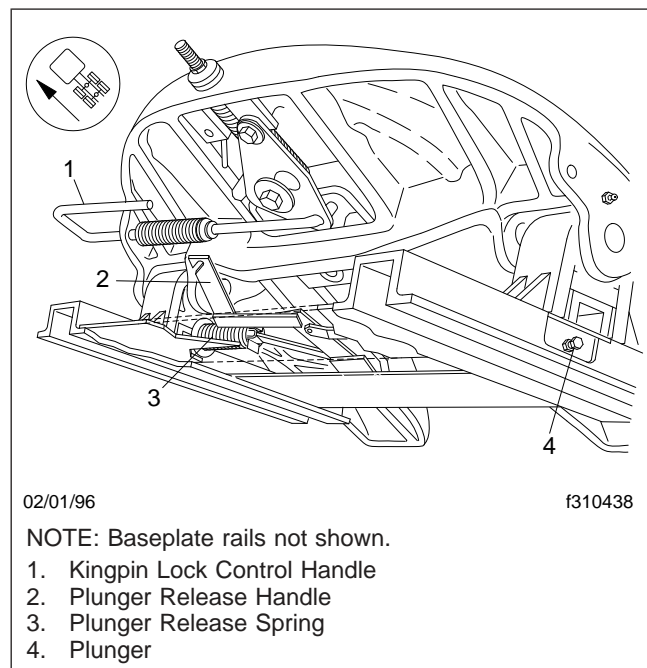
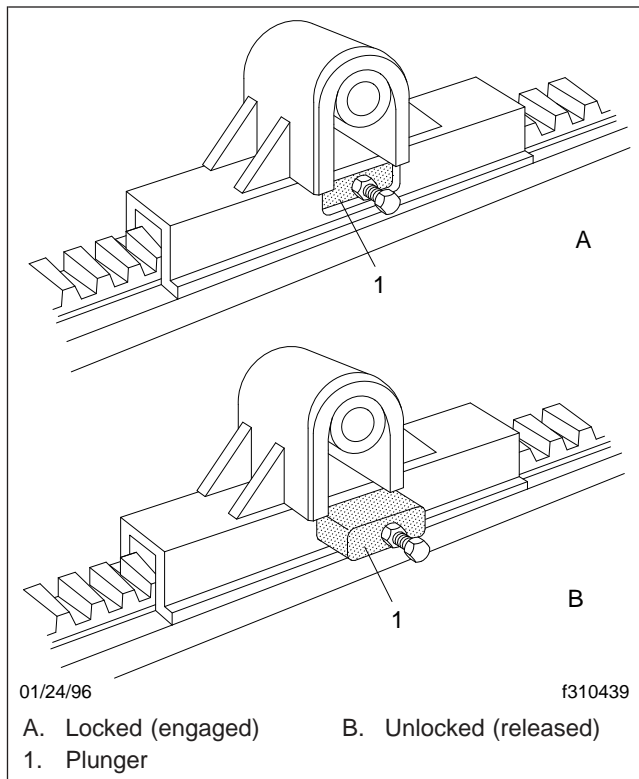

Fig. 10.3, Manual Release Slide
Fig. 10.7, Plunger Positions
The manual release slide assembly (**Fig. 10.3**) is equipped with a single release lever. Pulling on the release lever unlocks both plungers.
- 2.2 For manual release models, pull the release lever (**Fig. 10.3**) using a release hook, or other suitable tool. Make sure both slide plungers have released. See **Fig. 10.7**. If the plungers haven't released (haven't come out), lower the trailer landing gear to relieve pressure on the plungers.
- 8.1 For air-operated models, set the cab-operated control switch to LOCK. Visually check the slide plungers to make sure they are engaged in the fully locked position. See Fig. 10.7.
- 8.2 For manual release models, trip the release lever (Fig. 10.3) using a release hook or other suitable tool. Make sure that both plungers have locked (retracted into their pockets), and are fully engaged in the rack teeth. See Fig. 10.7. It may be necessary to move the tractor slightly while keeping the trailer brakes locked.